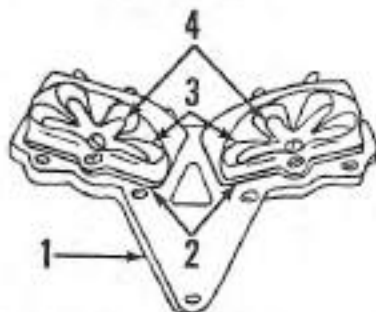

Fig. Mc80 — Rear view of inlet manifold showing inlet reed valve boxes (2), reed petals (3) and reed stops (4) must be centered over holes in box (2).
REED VALVES. The inlet reed valve unit is located between inlet manifold and crankcase. All motors use a pyramidal reed plate as shown in Fig. Mc80. Reed petals (3) must be centered in reed box (2), and may stand open a maximum of 0.010. Examine reed petals to make sure they are not bent, broken or cracked, and will seat against reed box throughout their entire length with little pressure. If reed petals (3) or reed stops (4) are distorted or bent, they should be renewed. Reed stops (4) must be centered over the petals when installing. Examine the seating surfaces of reed boxes (2) to make sure they are smooth and flat.